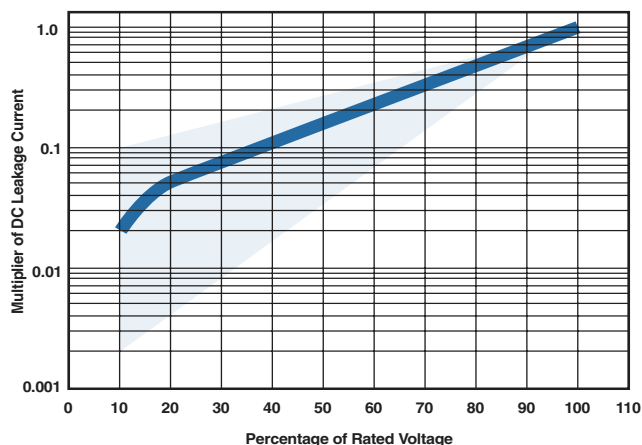

Fig 5 Typical variation of leakage current with voltage
**DC Leakage Current** — The DC Leakage current limits of Table I are the lowest generally specified in the solid tantalum industry. Even lower leakage currents are available on special order. Low leakage current, aside from its intrinsic value, is an indication of anode quality. DC leakage current as a function of temperature is represented by the typical curve in Figure 4, while similar information pertaining to leakage behavior with respect to voltage is contained in Figure 5.